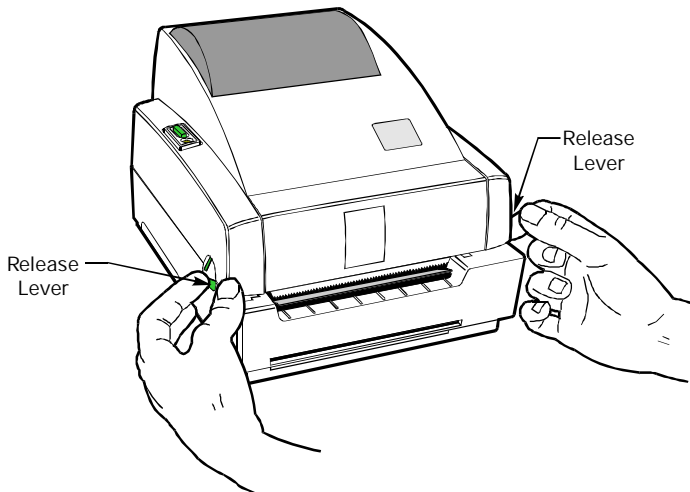

Figure 3
1. Unlatch the top cover by pressing the two green release levers (refer to Figure 3). Then, lift the top cover to expose the media compartment.